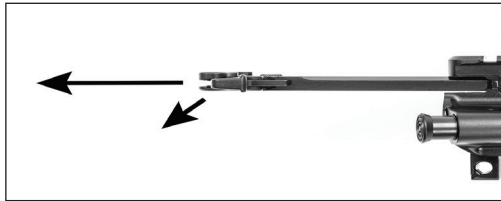

Fig. 18 – Removing the Charging Handle
- a. Depress the catch on the charging handle and withdraw the bolt assembly from the rear. Continue to pull the charging handle to the rear until resistance is encountered. Pull down on the charging handle and separate the charging handle from the upper receiver (Fig. 18).